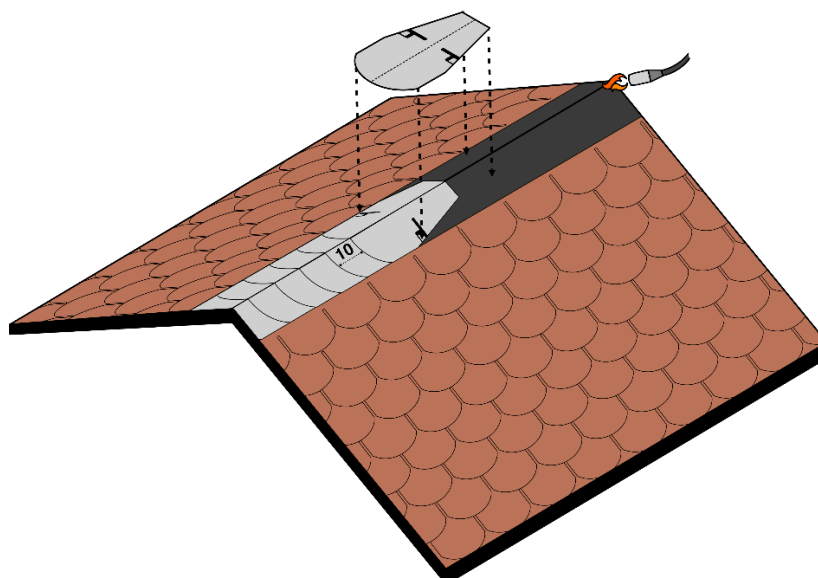

Fig. 19 - Ridge elements installation by torch
- Apply a band of bituminous membrane Safety EPP on the ridge by torch - Fig. 19.
- Proceed with the installation of the other ridge elements in sequence, leaving an exposed part of 10 cm between one element and the next, see Fig. 19.